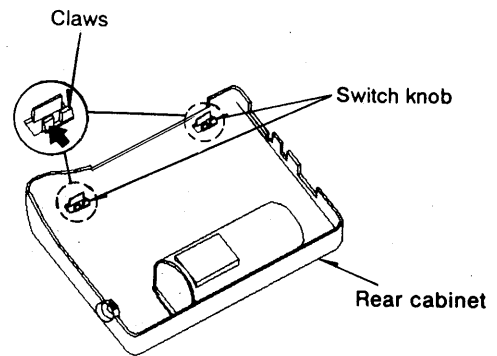

Fig. 8
**● Removal of the switch knobs (Fig. 8)**